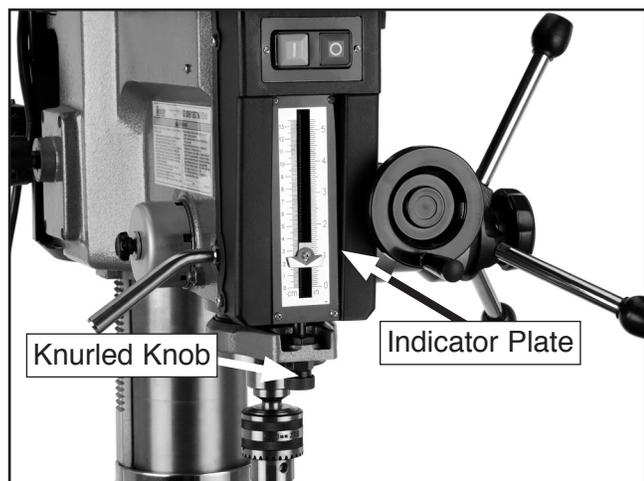

Figure 26. Setting depth stop.
2. Turn the depth stop leadscrew until the top of the indicator plate is level with your desired depth as listed on the scale to the left or right. The depth stop leadscrew is controlled by the knurled knob under the front of the headstock (**Figure 26**).